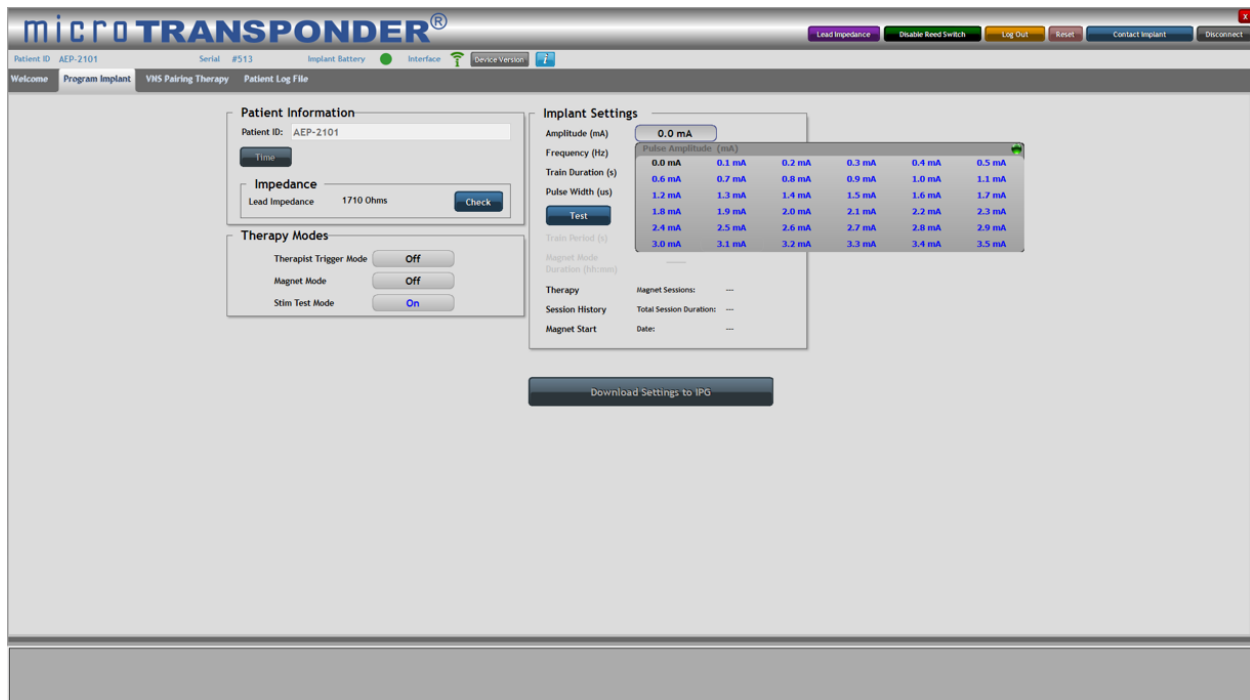
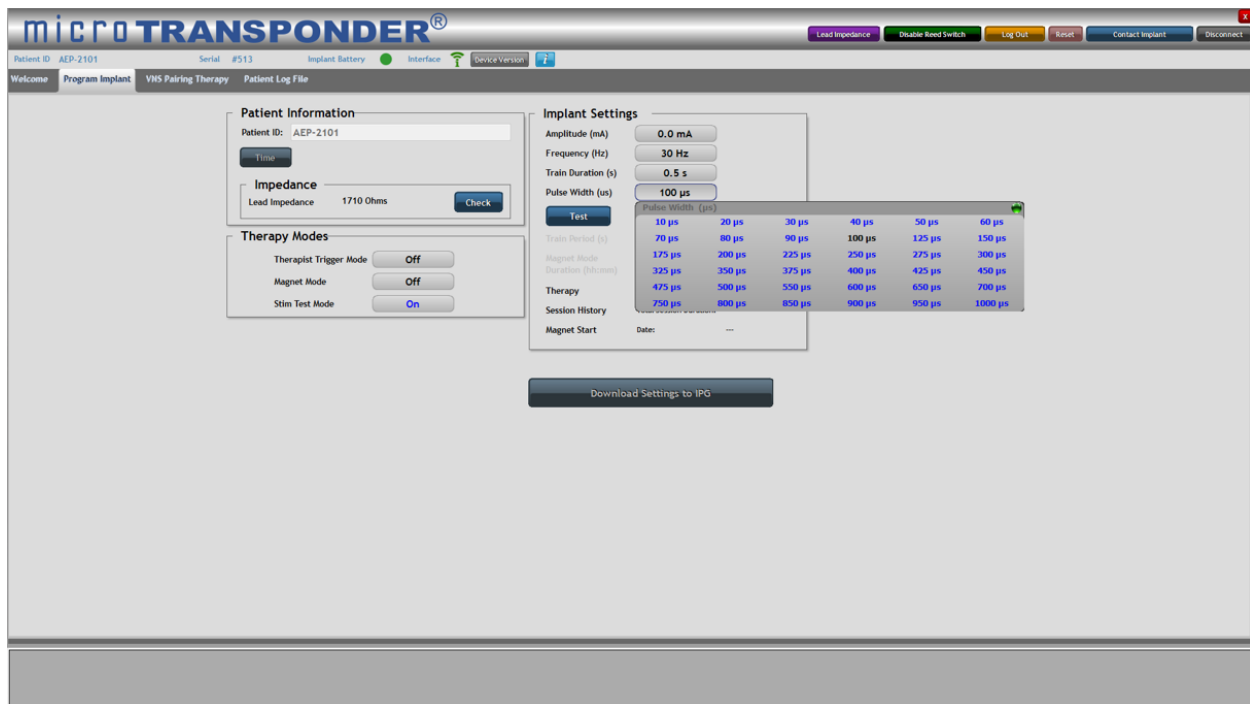

Figure 4.12: Amplitude
Figure 4.15: Pulse Width
3. Select the appropriate value for each parameter, and program the parameters into the IPG using the **Download Settings to IPG** function. Examples of parameters are shown in Figure 4.12 through Figure 4.15.
each parameter. Example drop-down menus for each parameter are shown above in Figure 4.12 through Figure 4.15.